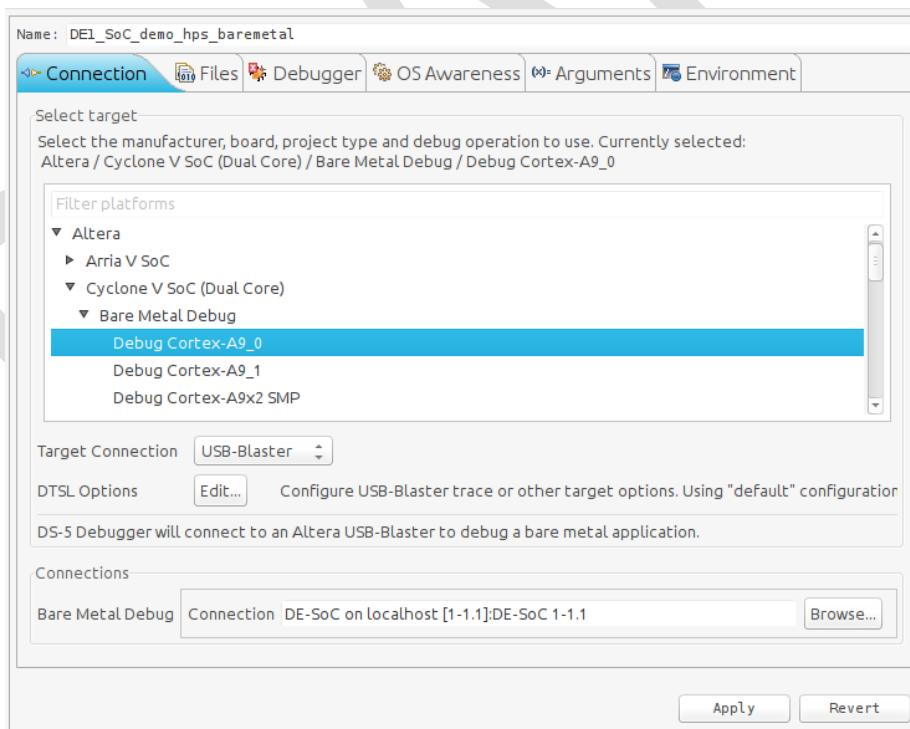

Figure 8-29. Debug Configuration “Connection” Tab
- d. You should have something similar to Figure 8-29.